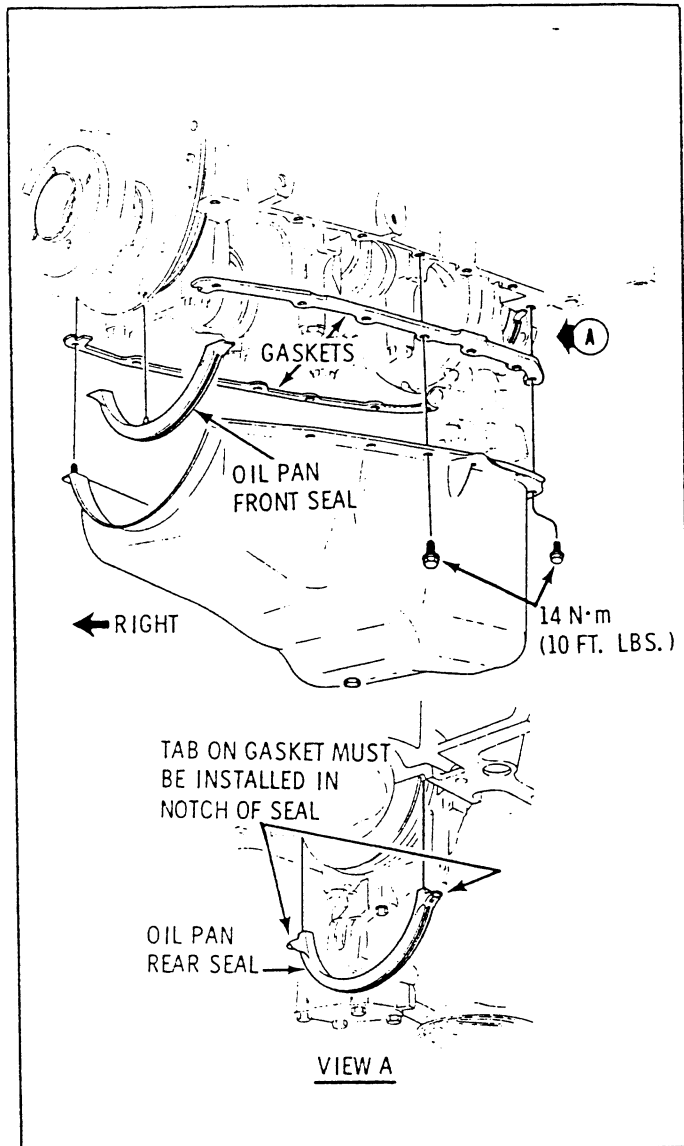

Fig. 31 Oil Pan Gaskets & Seals
1. Apply 1050026 sealer or equivalent to both sides of pan gaskets and install on block. Be certain that the tabs on the gaskets are installed in the notches of the seals. (Fig. 31)